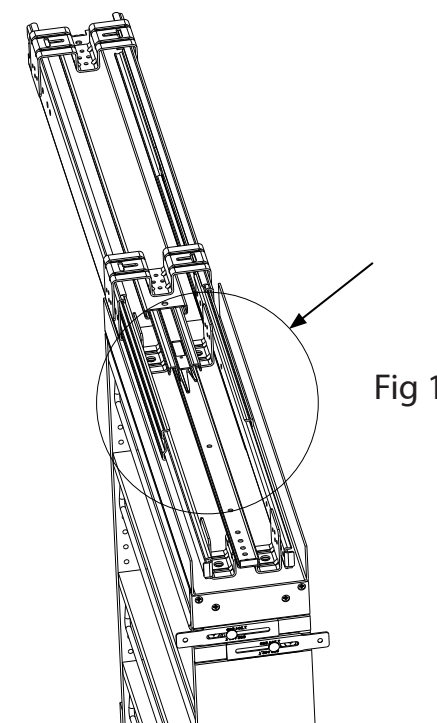
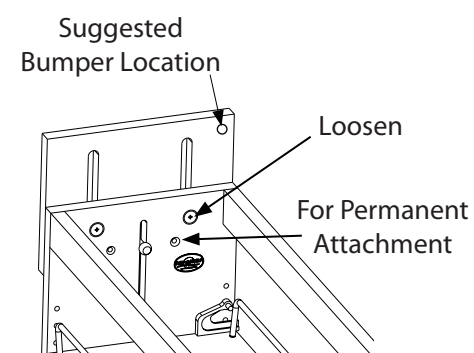

Fig 1
Fig 3
- 1) Remove cabinet member of the tri-slide from the pullout unit. It is recommended that the middle slide release be triggered first, followed by the two side slide releases. This is done by fully extending the slide (like opening the unit) and pushing the black release lever to the side. Next, slide the intermediate past the lock. Once all (3) release levers are triggered, the tri-slide unit can be removed from the pullout. (See Fig. 1 & 2).
- 2) Using the mounting template provided, pre-drill (4) holes using a 3/32" drill bit.
- 3) Attach the tri-slide cabinet member to the floor of the cabinet in the appropriate location, being sure to center the slide in the cabinet opening. Use the (4) #8 x 3/4" deep thread screws provided.
- 5) Loosen the machine screws at the top back wall of the unit to allow the rear stop to float freely. (See Fig. 3). Raise the rear stop until it catches the rear of the face frame (if frameless application, a block may need to be added to allow the stop to work properly). Once the stop is at the right height, the machine screws can be tightened. (Note: Once in place you can permanently secure the location using the pre-drilled pilot holes and the (2) #6 x 1" flat head screws provided.)